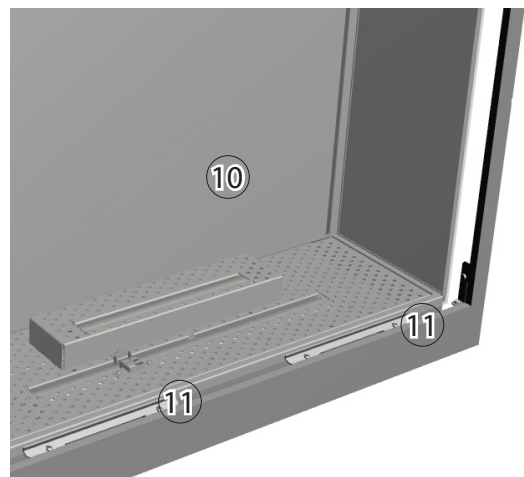

Figure 5
Figure 5 shows two Glass Clamps (11), after the front Finish Trim (9) is removed.